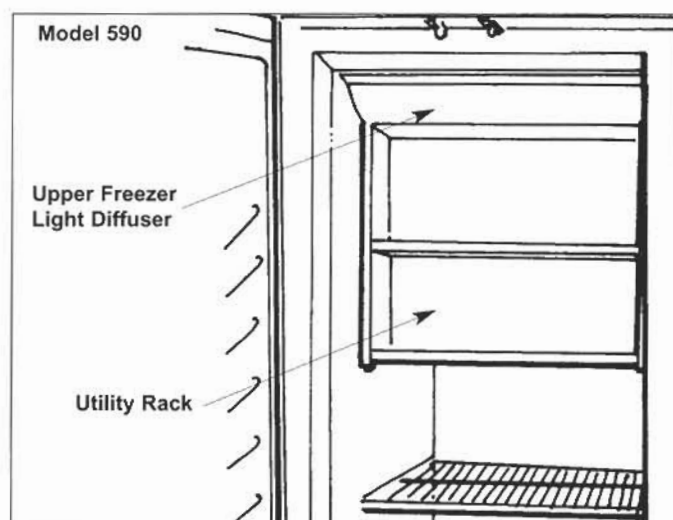

Figure 2-44. Upper Freezer Light Diffuser
1. To access the ice maker, lift up and remove the freezer utility rack (Figure 2-44), then remove the top light diffuser. Remove the ice bucket.
1. To access the ice auger motor, lift up and remove the freezer utility rack (Figure 2-44), then remove the top light diffuser. Remove the ice bucket.